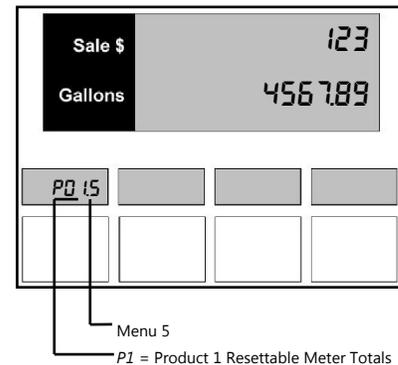

Figure 1.6 – Electronic Totalizer Totals
5. If all Menu Code 1 totals have been displayed, tap the magnet over the left side of the volume display print again to view the Menu Code 5 (Electronic Totalizer Totals) for Product 1 as shown in *Figure 1.6*.